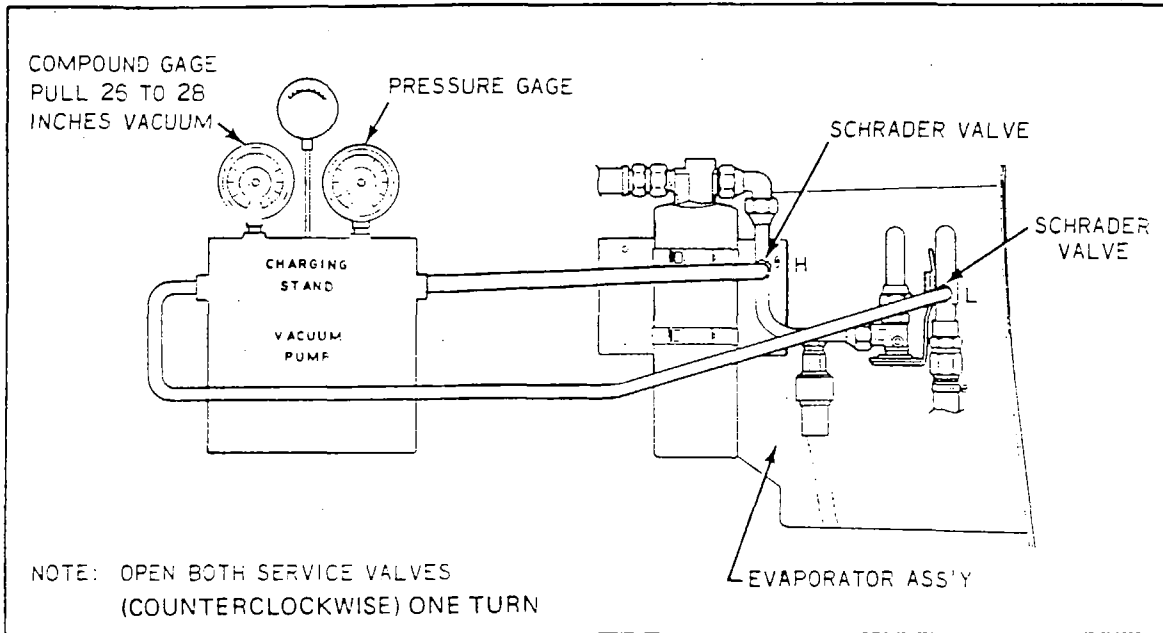

Figure 13-6. Evacuation Hookup
- b. Connect the manifold gauge set to the airplane service valves. (Refer to Figure 13-6.)